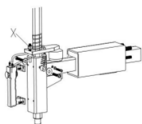

Fig 22
Note: If the vertical arm does not lock or does not meet the required 2-3 mm distance from the bottom of the mounting/demounting head to the rim, please adjust the hexagonal locking plate, see Fig. 22 and adjust (X).